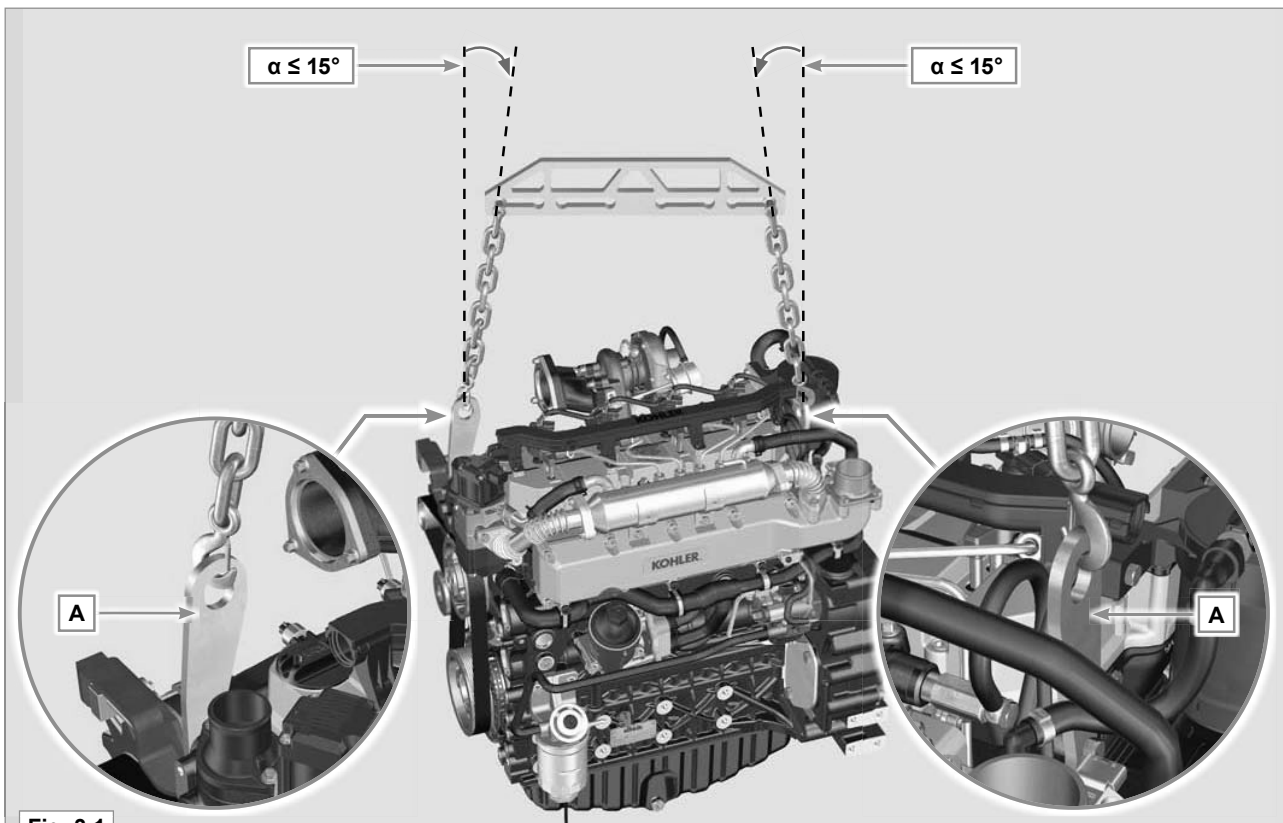

Fig. 3.1
- Only use the eyebolts **A** installed by KOHLER to move the engine (**Fig. 3.1**).